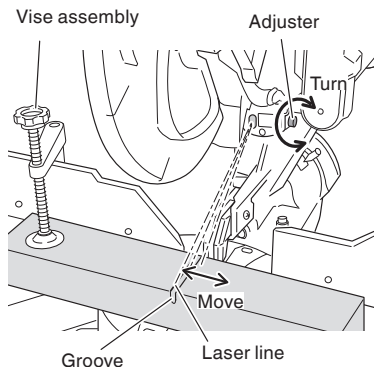

Fig. 19
- (2) Then, turn the adjuster and shift the laser line. (If you turn the adjuster clockwise, the laser line will shift to the right and if you turn it counterclockwise, the laser line will shift to the left.) When you work with the ink line aligned with the left side of the saw blade, align the laser line with the left end of the groove. (Fig. 19) When you align it with the right side of the saw blade, align the laser line with the right side of the groove.